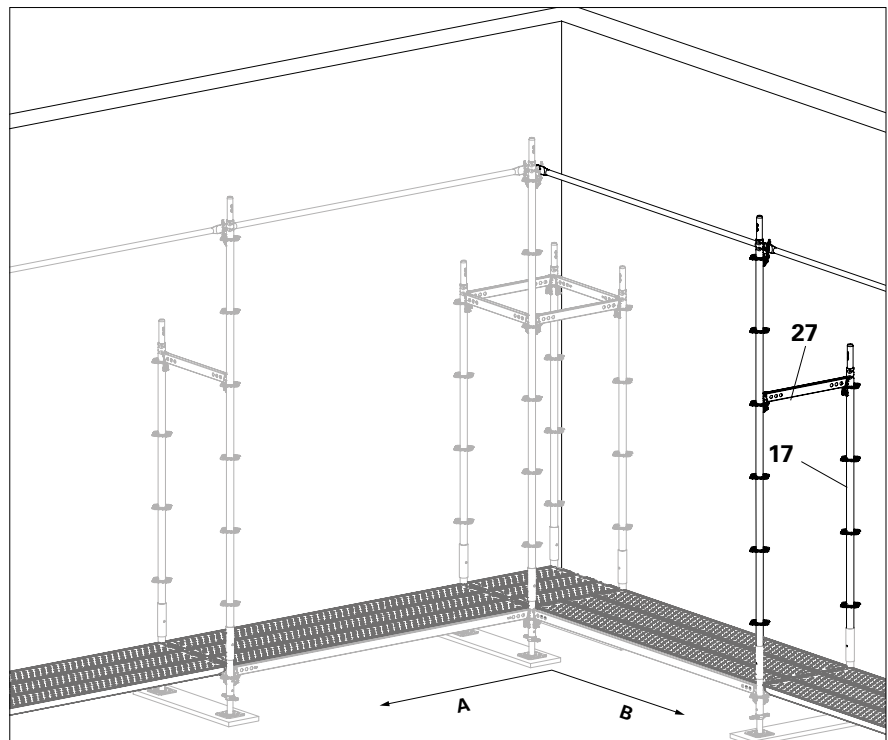

Fig. B6.10
8. Connect standards to the Horizontal Ledgers UH-2 75 (**27**) at the deck height. Hammer all wedges into place. (Fig. B6.10)